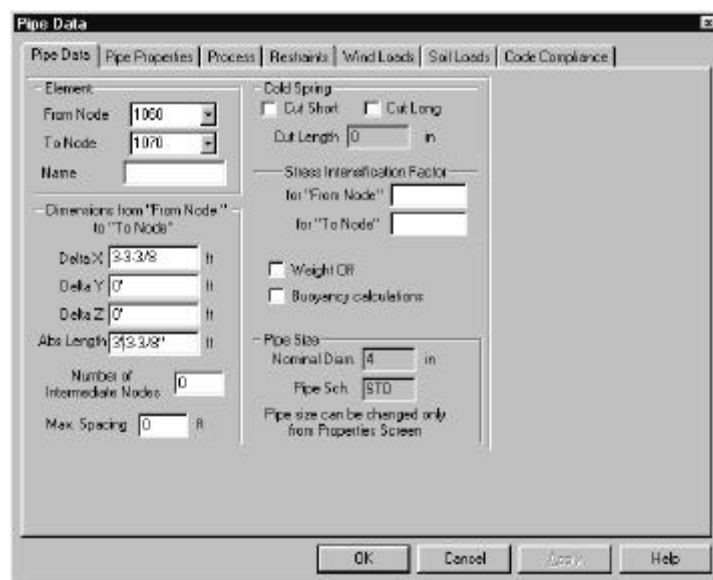

Figure 2.3.3-22 Node 1070, Pipe Dialog, Pipe Data Tab
5. Verify that the number **1070** is in the **Node Label** field of the **Element** field group for the anchor as shown in Figure 2.3.3-23.
6. Click **OK** to save the anchor data and display the Graphic View shown in Figure 2.3.3-24.